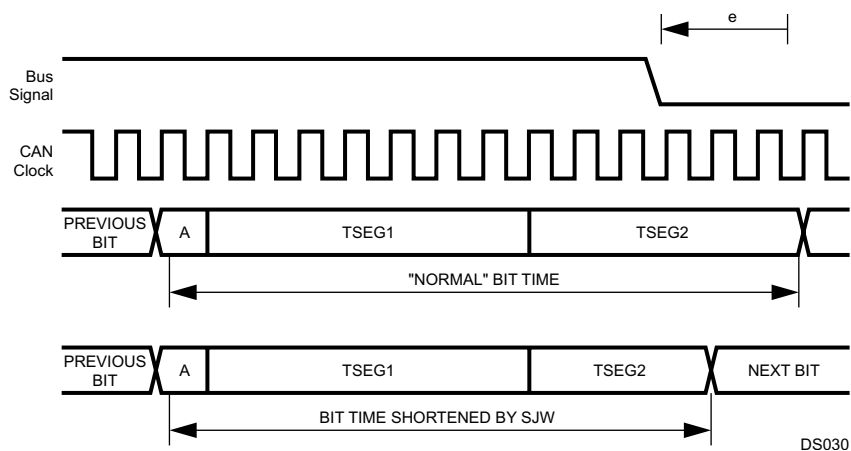

**Figure 15-13. Resynchronization ( $e < -SJW$ )**
- If  $e < -SJW$ , TSEG2 will be shortened by the value SJW (see Figure 15-13).